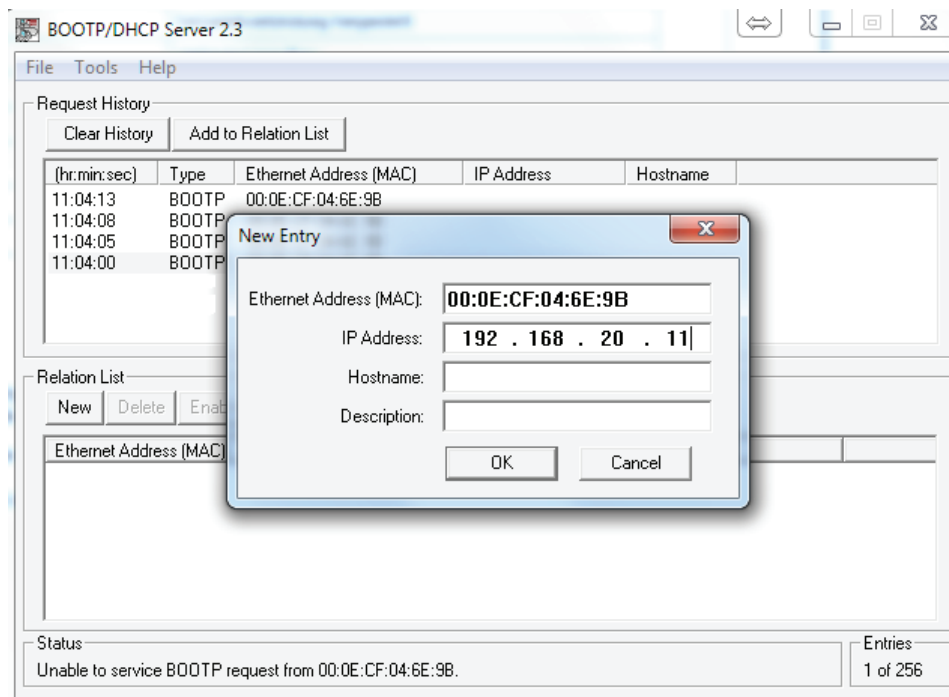

Fig.: 3
- In the dialogue that then appears, select **Register an EDS file(s)** and select the downloaded file (see Figure 3).